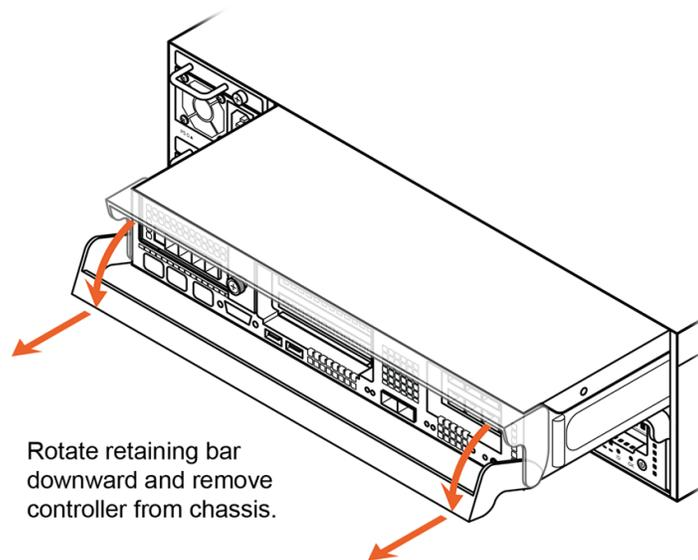

Figure 10-9. Removing the Controller
2. Rotate the controller retaining bar downward and pull the controller from the chassis. See Figure 10-9.